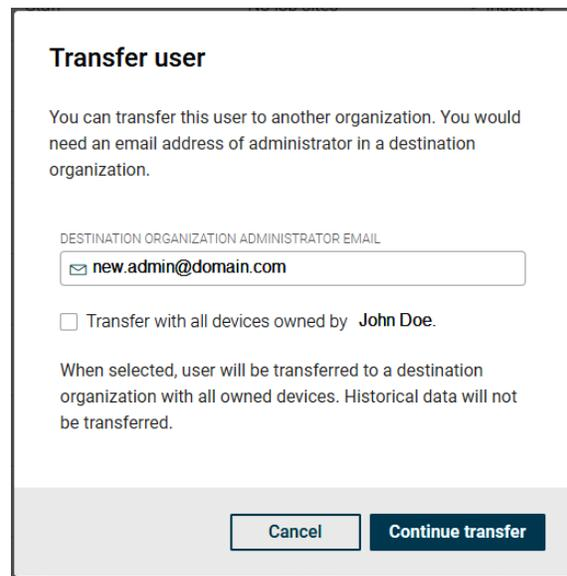

Figure 68. Continue Transfer
6. After typing a valid administrator organization e-mail, an optional box will appear on the window “Transfer with all devices owned by XXX”. Check it if desired. Click on “Continue transfer”. See **Figure 68**.